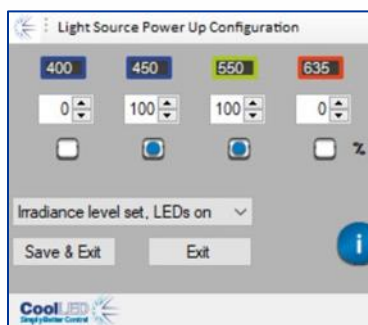

Figure 18
3. Select the Light Source power-up state using the dropdown box (see Figure 18 to Figure 20).